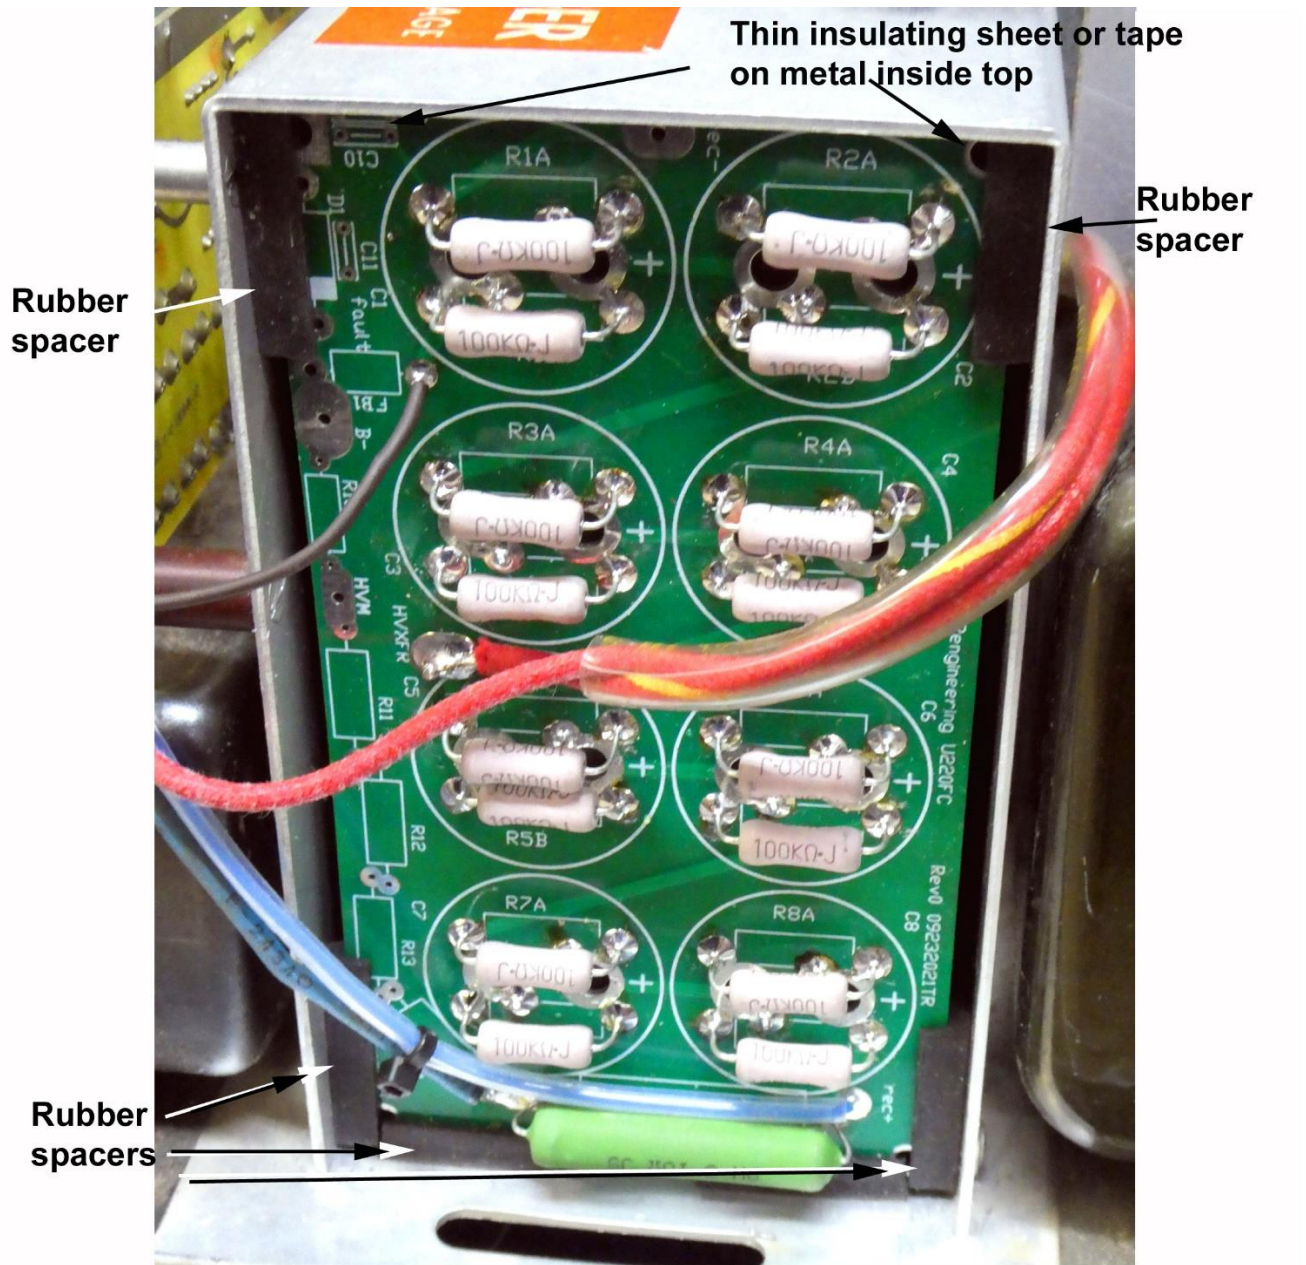

Figure 3 Board in place
- 6.) The board has a great deal of in-and-out room. Position or hold the board outward near the outside edge of the Heathkit U-enclosure. This makes wiring easier. The position shown in Figure 3 is ideal, with resistors just level or beyond the enclosure.